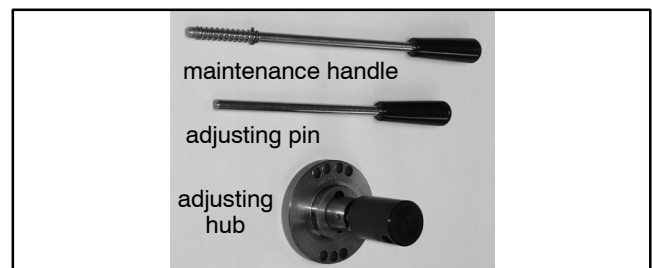

Figure 10-1 Contact Adjustment Handle Kit GM93665
- Contact handle adjustment kit GM93665 (see Figure 10-1)